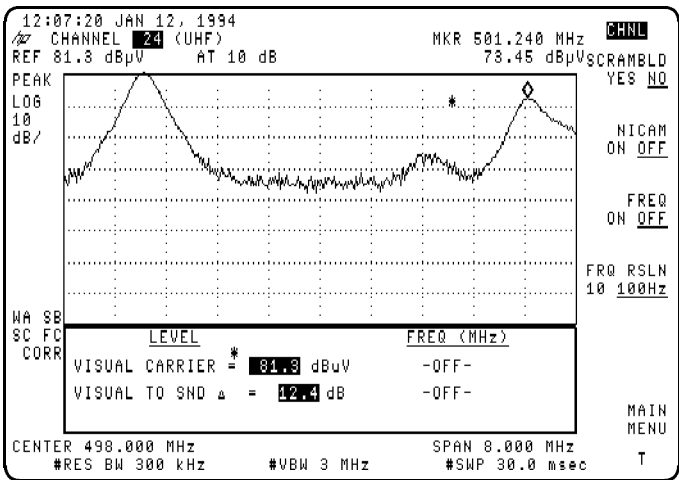

Figure 2-7. Carrier and Sound Levels
3. The peak vision carrier level and the relative sound carrier levels are displayed in a table at the base of the screen as shown in Figure 2-7. For signals with dual (stereo) sound carriers (PAL-B/G) and NICAM (PAL-I and PAL-B/G), power ratios for both sound carriers are displayed.